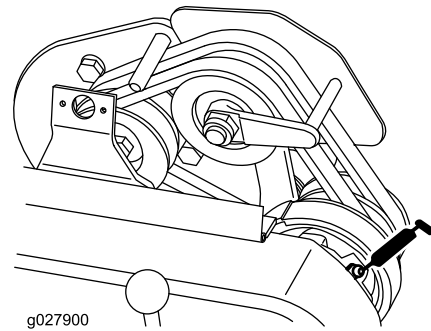

Figure 21
- 2 on the belt idler pivots (Figure 21).